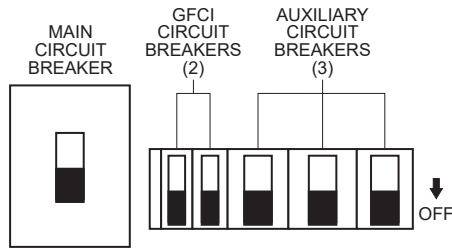

Figure 60. Main, Auxiliary, And GFCI Circuit Breakers (OFF)
2. Place the **main, auxiliary, and GFCI** circuit breakers (Figure 60) in the **OFF** position.
2. Place the **main, auxiliary, and GFCI circuit breakers** in the **OFF** position as shown in Figure 60.